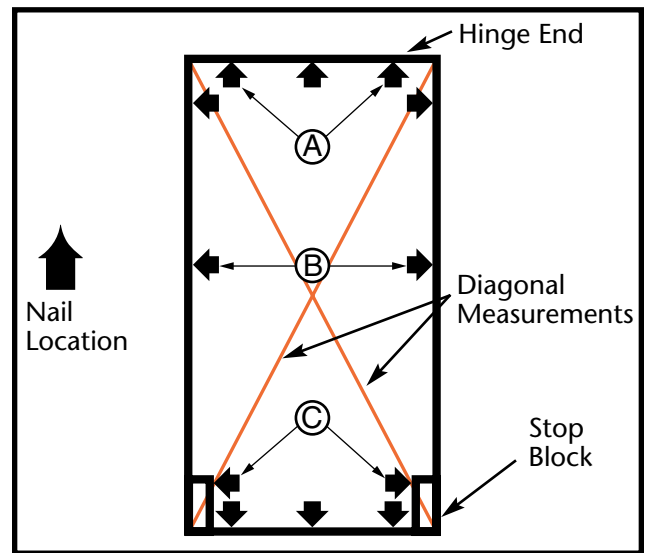

Figure 22
STEP 5. After predrilling using 1/8" drill bit, nail the hinged end to the header by driving two 16d nails through the hole in each metal bracket on the headboard (location A at Figure 22).
Check the frame for squareness from above by measuring across the diagonals (See Fig. 22). The two measurements should be within 1/8" to be considered square.
STEP 2. Pre drill all nail locations shown with arrows in Figure 22 using a 1/8" drill bit. Do not drill into the joists or headers. Nail the access ladder to the frame following these instructions.
- Drive ten 16d nails, checking squareness and re-shimming as necessary, as shown in Figure 22. Nails at locations marked "B" must go through the hole in each of the metal brackets. Push the ladder up from below until the hole in the bracket is uncovered, then drive the nail through the hole. Locations marked "C" indicate that a nail should be driven through each wooden "stop block".